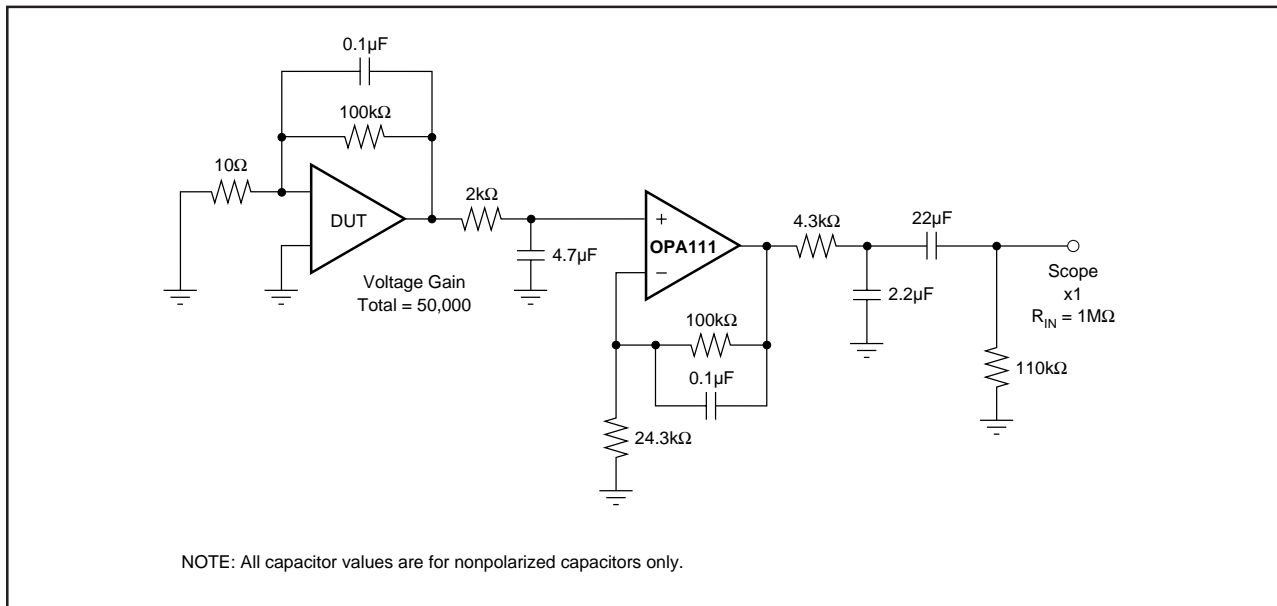

FIGURE 1. 0.1Hz to 10Hz Noise Test Circuit.
NOTES: (1) Measured with industry-standard noise test circuit (Figures 1 and 2). Due to errors introduced by this method, these current noise specifications should be used for comparison purposes only. (2) Offset voltage specification are measured with automatic test equipment after approximately 0.5 seconds from power turn-on. (3) Unnulled or nulled with 8k Ω to 20k Ω potentiometer. (4) Long-term voltage offset vs time trend line does not include warm-up drift. (5) Typical specification only on plastic package units. Slew rate varies on all units due to differing test methods. Minimum specification applies to open-loop test. (6) This parameter guaranteed by design.